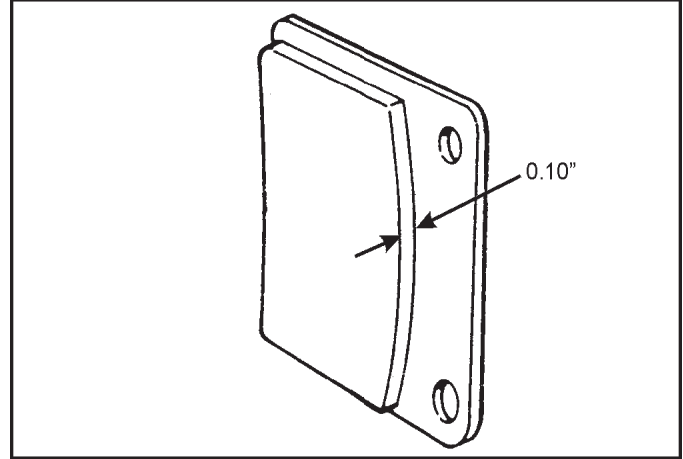

Figure 2
- the brake lining material molded to each metal backing plate is worn to 0.10" thickness. (Figure 2).